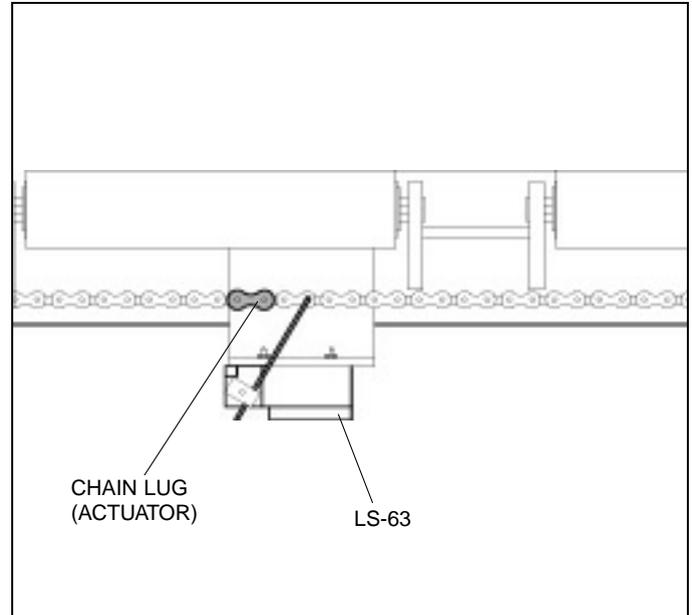

Figure 2.28 SWITCH LS-63 ON PALLET TRANSFER.
- 2.2.6.3** LS-63 switch stops the Pallet Transfer conveyor at home position when lug is approximately 2" to 3" [51 to 76mm] behind pallet, ready to push next pallet. See figure 2.28.